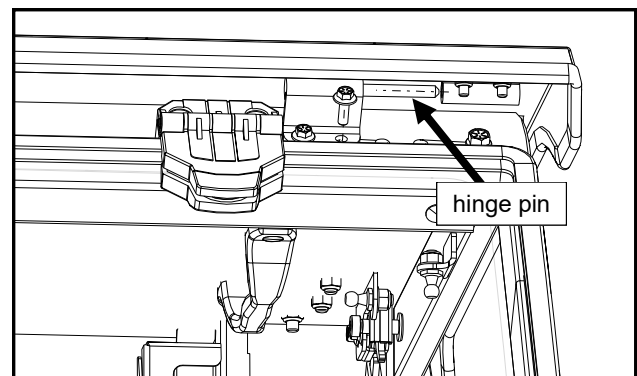

Fig. 13.2 (roof hinge - left)
**13.2** Once the roof is in place, install the left hinge pin and then the right hinge pin. See fig. 13.2. Ensure that the roof is square to the side frames and tighten hinge fasteners.